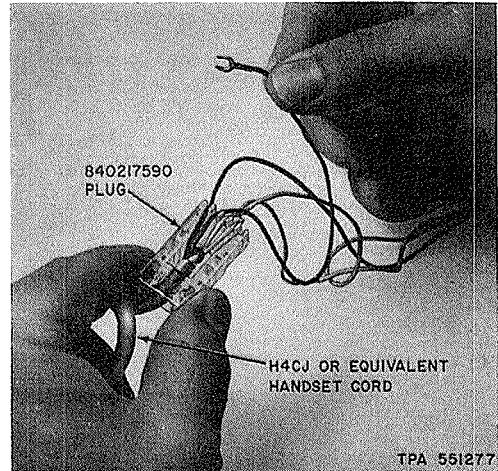

Fig. 17—Installing Spade-Tipped Handset Cords in Early Production Sets
3.17 Installation of Spade-Tipped Handset Cords In Early Production Set Equipped With G12A Handset (Fig. 17): To install spade-tipped handset cord (H4CJ or equivalent) remove P-376819 J Hook Stayband from the cord. Cut back and remove cord sheath to stayband marks. Thread spade-tipped conductors through plug 840217590 (ordered separately) (spade tips must be bent to clear cord entrance). Pull cord until about 1/4-inch of cord sheath is in the central cavity of the plug. Separate the conductors into two groups and tie an overhand knot, pulling the knot to the cord sheath. Pull cord from plug until strain relief position is attained by knot entering sheath and resting against plug. Feed spade-tipped conductors straight through jack P-22F620 and connect to proper terminals. Insert plug in jack.